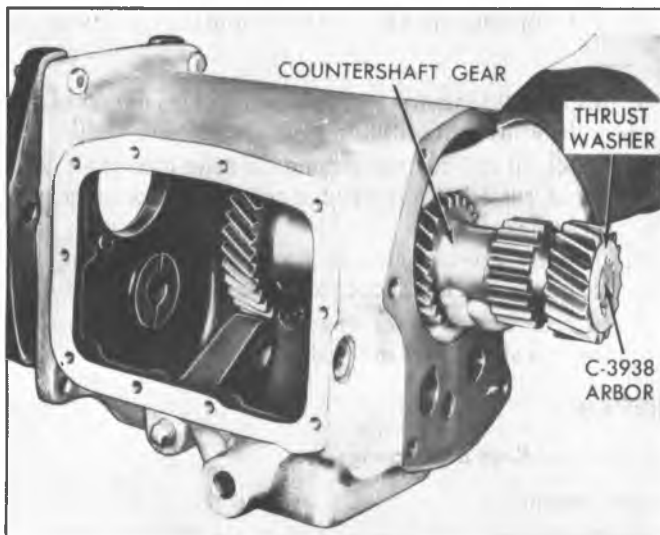

Fig. 5R--Remove or Install Countershaft Gear and Arbor Assembly
12. Remove countershaft gear from bottom of case. Refer to Fig. 5R.
2. Install countergear assembly into the case aligning the tangs on the front washer with the slots in the case. Next install the rear washer aligning the tangs with the slot at the rear of the case and then let the countergear rest in the bottom of the case. (Be sure thrust washers stay in position). Refer to Fig. 5R.